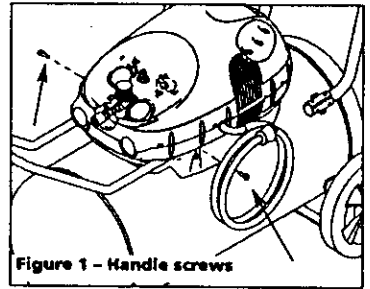

Figure 1 - Handle screws
2. Insert handle through shroud and into baseplate as shown in Figure 1. Handle must fit into special openings in baseplate.